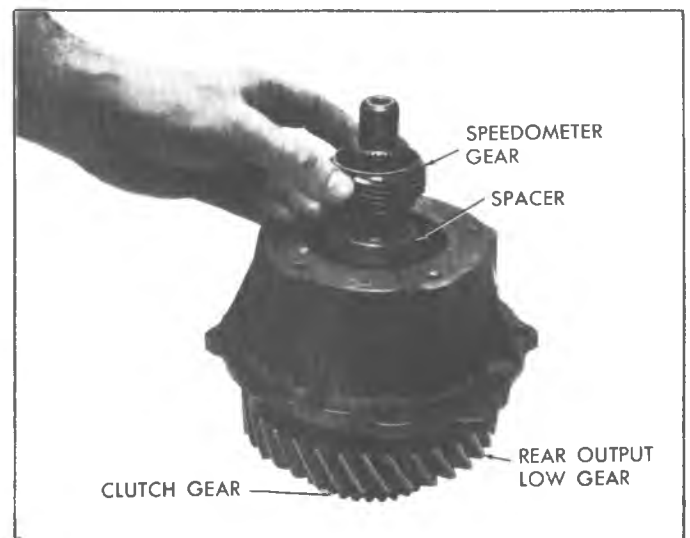

Fig. 7D-18R--Installing Rear Output Shaft Spacer and Speedometer Gear
6. Install housing onto output shaft assembly, install spacer and speedometer gear, then install bearing (Fig. 7D-18R).
7. Install rear bearing retainer seal using Tool J-21359 or J-22834-2 (Fig. 7D-19R).